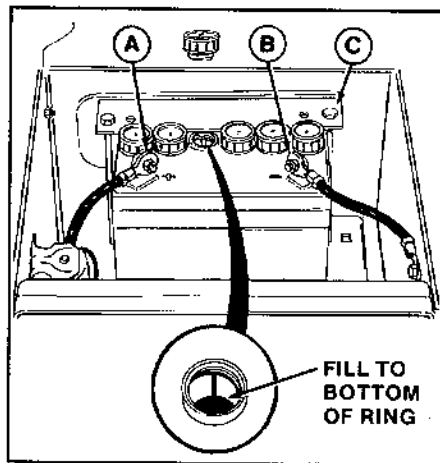

Figure 13. Battery
3. Fluid must be even with split ring mark (figure 13). If not, add distilled water.
1. Disconnect the cables from the battery, negative cable first (figure 13).
5. Reinstall battery and clamp (figure 13).